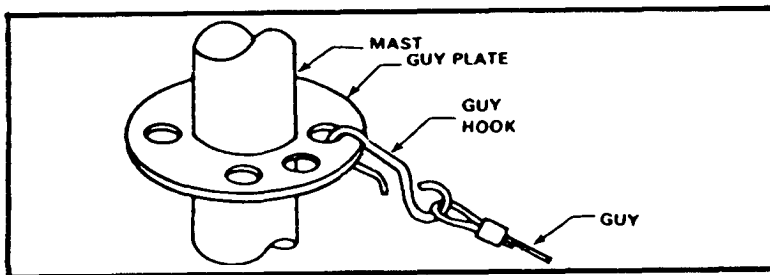

Figure 3-5. Attaching guy hooks to guy plate.
- a. Attach the hooks of the lower guy assemblies (color coded blue) to the lower guy plate (Figure 3-5).
- c. Attach the hooks of the upper guy assemblies (color coded red) to the upper guy plate (Figure 3-5).